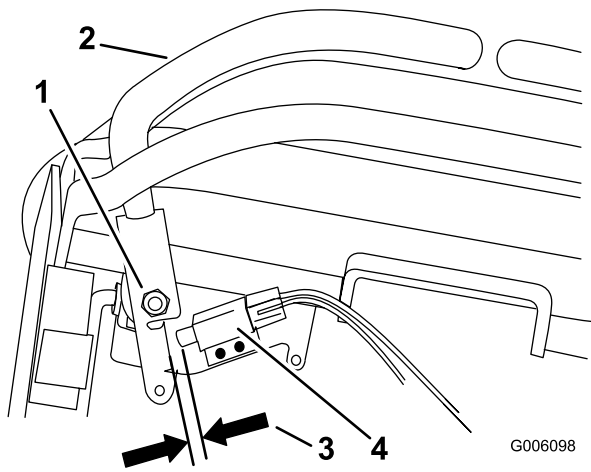

Figure 45
10. Check the gap between the control lever and switch as shown in Figure 45. The gap needs to be an 1/8 inch (3mm).